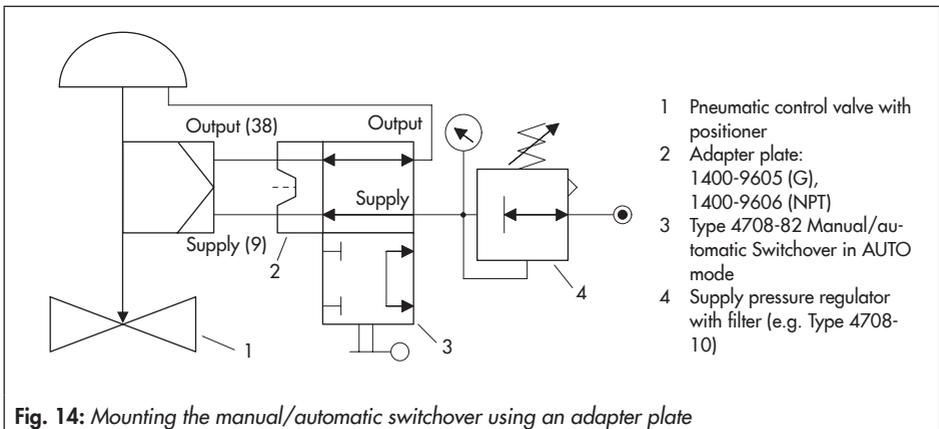

Fig. 14: Mounting the manual/automatic switchover using an adapter plate
- Connect hook-up for positioner and actuator as shown in Fig. 14.